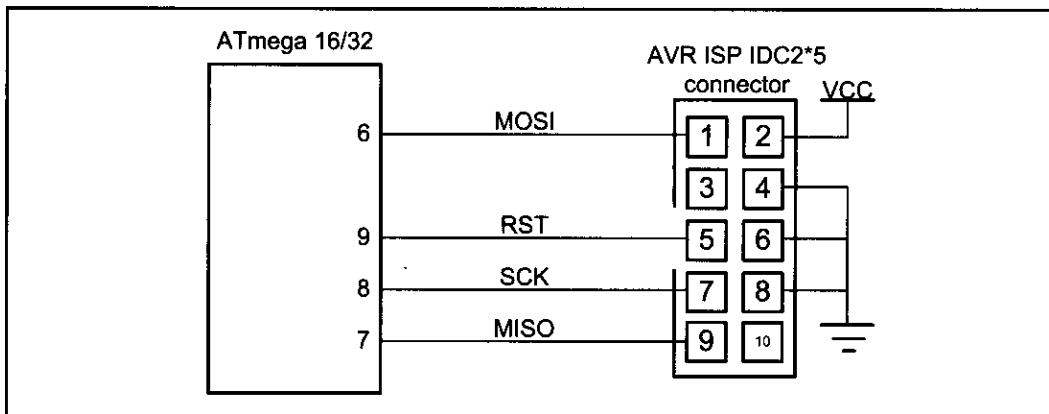

Figure 8-11. ISP 10-pin Connections (See [www.Atmel.com](http://www.Atmel.com) for 6-pin version)
2. An in-circuit serial programmer (ISP) allows the developer to program and debug their microcontroller while it is in the system. This is done by a few wires with a system setup to accept this configuration. In-circuit serial programming is excellent for designs that change or require periodic updating. AVR has two methods of ISP. They are SPI and JTAG. Most of the ATmega family supports both methods. The SPI uses 3 pins, one for send, one for receive, and one for clock. These pins can be used as I/O after the device is programmed. The designer must make sure that these pins do not conflict with the programmer. Notice that SPI stands for "serial peripheral interface" and is a protocol. But ISP stands for "in-circuit serial programming" and is a method of code loading. AVRISP and many other devices support ISP. To connect AVRISP to your device you also need to connect VCC, GND, and RESET pins. You must bring the pins to a header on the board so that the programmer can connect to it. Figure 8-11 shows the pin connections.